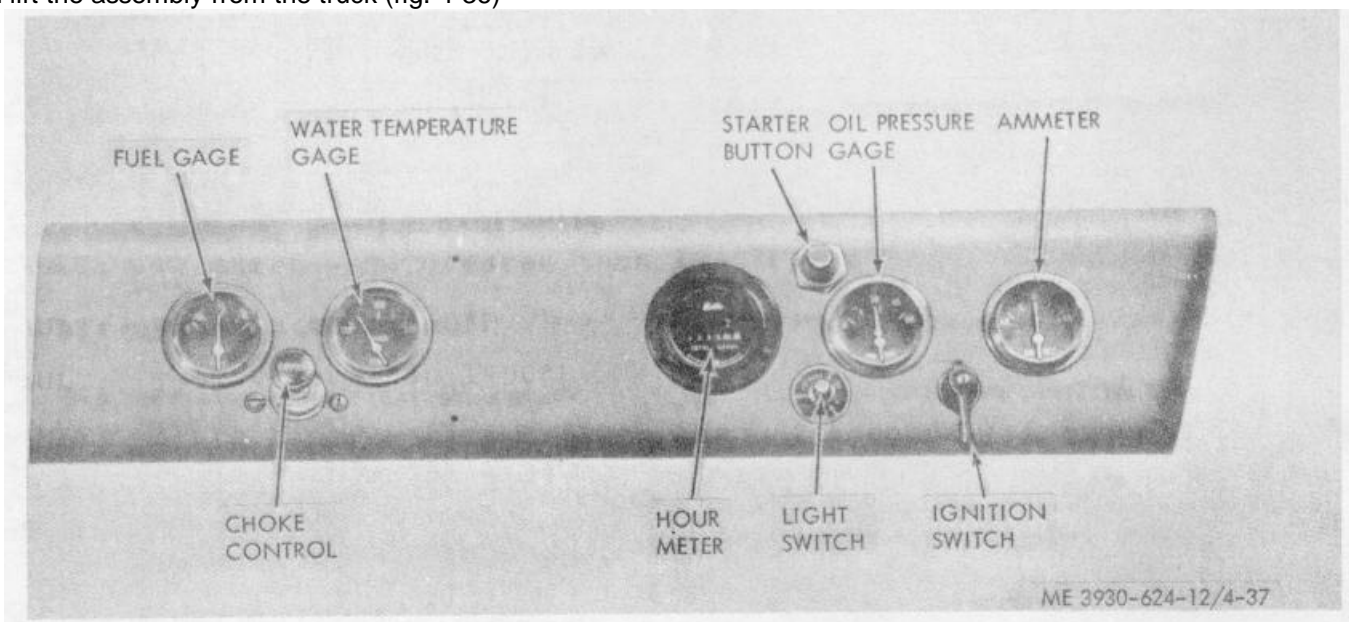

Figure 4-37. Instrument panel gauges, meters, and switches.
(4) Remove any of the units from the instrument panel as necessary for replacement. Refer to figure 4-37.